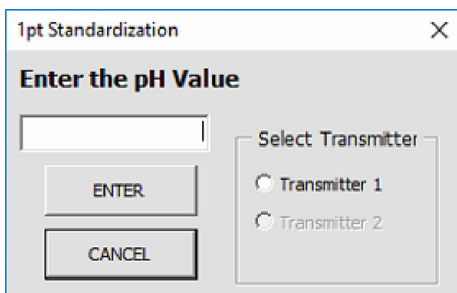

Figure 3.9. 1pt Standardization box.
3. Click the **1pt. Standardization** box in the **Calibration** tab of the **Detail** window, which opens the following screen (Figure 3.9).